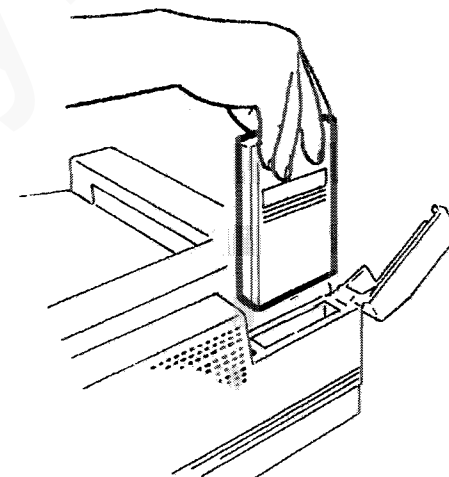

Figure 1. Cartridge removal
2. (Figure 1) Open the font cartridge cover and remove the font cartridge.